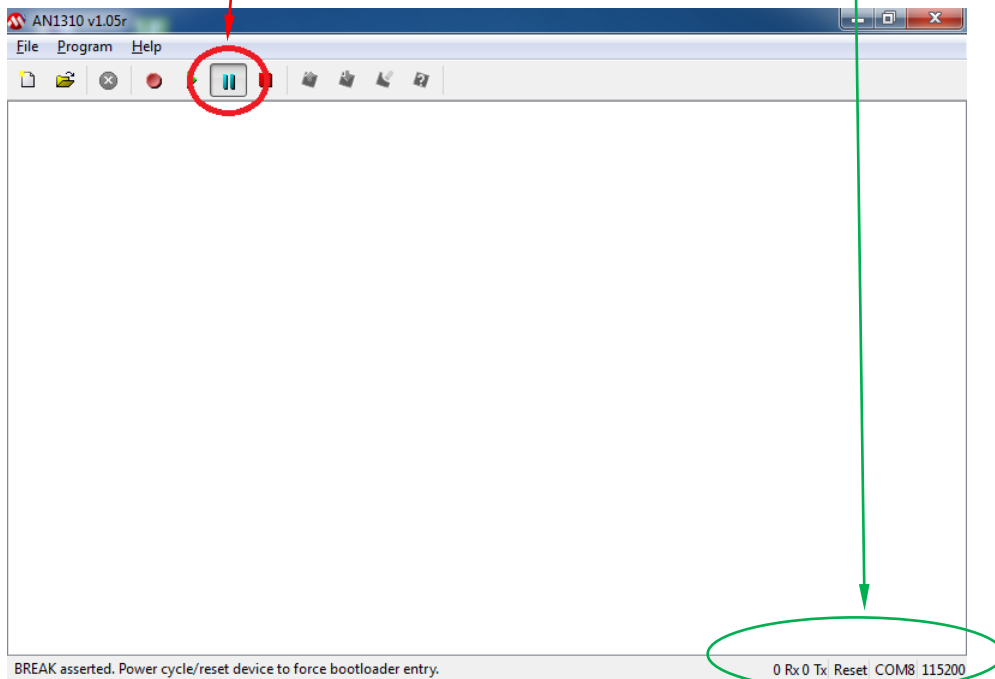

Figure 3.16
3. Press the blue **Break/Reset Mode** button (Figure 3.16). The bottom status bar will request resetting the SP-2000 board.